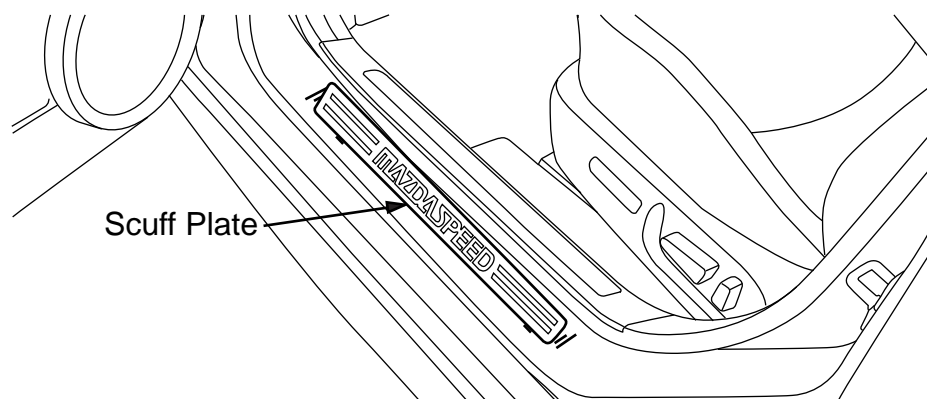

Figure 12
- A. Start by placing Scuff Plate at an angle, aligning on the two side In-Out marks. (Figure 12)